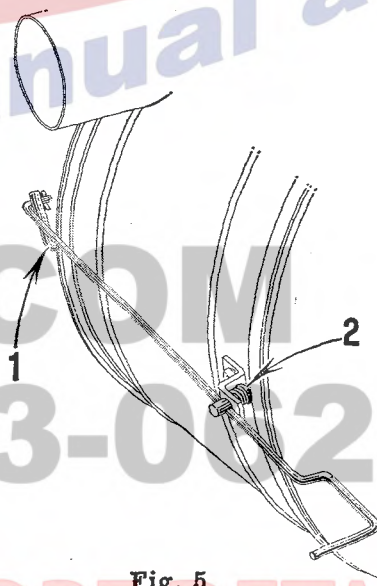

Fig. 5
2. Remove the rivet and spring from the control rod and put in bracket on the collector as in Fig. 5. Then connect to damper arm as shown.